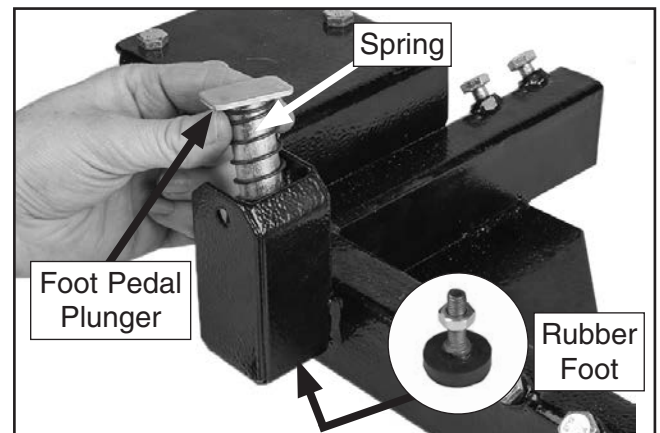

Figure 10. Installing foot pedal plunger and spring.
- Install foot pedal plunger and spring into each corner bracket (see **Figure 10**), and attach a rubber foot (with M10-1.5 hex nut) to the bottom of each foot pedal plunger.